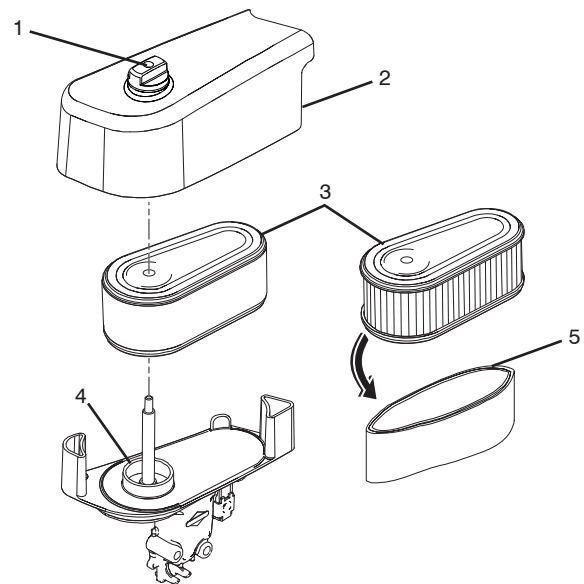

Figure 21
1. Loosen the fastener that holds the cover. Remove the cover (Figure 21).